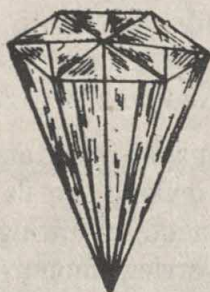

Fig. 1.6. Cut and polished diamond.
(2) It is transparent to light and possesses high refractive index ($=2.45$). This is why a diamond sparkles brightly, when suitably cut and polished (Fig. 1.6).